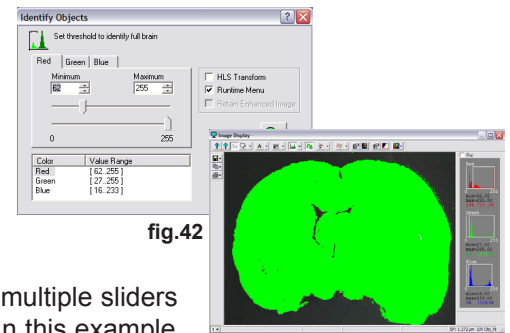

fig.42
4. Close the **Capture** window. Click **Identify** in the **Task** toolbar and set the threshold to identify the full brain. Set the minimum slider for Red to 62, Green to 27 and Blue to 16, and set the maximum slider for the Red, Green and Blue channel to 255, or adjust the sliders until the full brain section is covered with a green overlay as shown in figure 42.